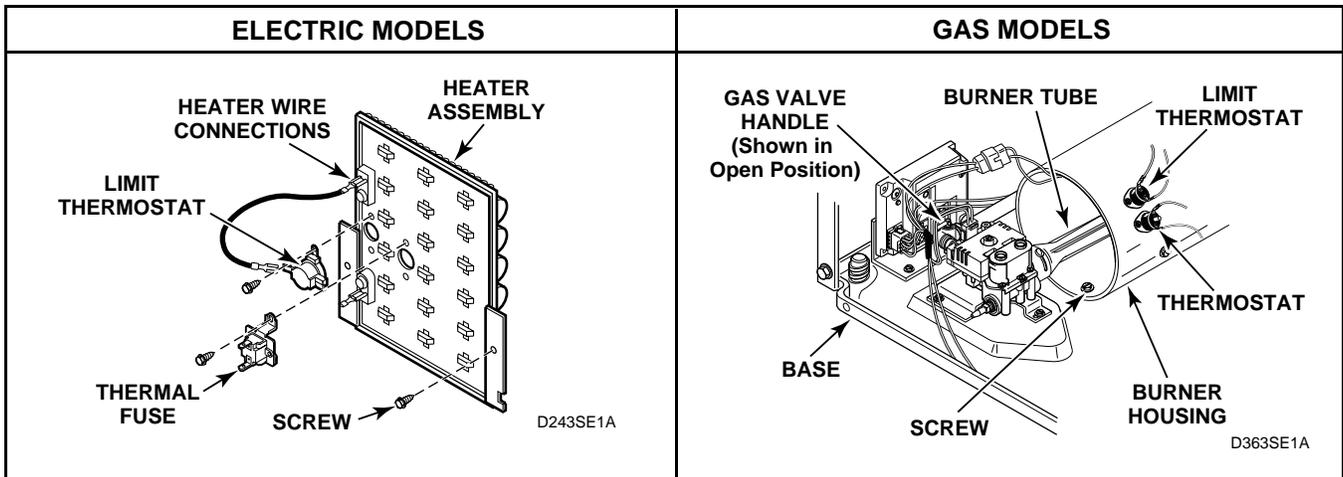

Figure 16
- d. Remove screw from right side of burner housing, while holding burner tube in place. See *Figure 16*.
- i. Remove screw holding front of burner housing to dryer base and remove housing out through front of dryer. See *Figure 16*.
- c. Disconnect wires and remove screws attaching limit thermostat to burner housing or element plate. See *Figure 16*.
- c. Disconnect wires from element and plate. See *Figure 16*.
- d. Remove two screws holding element and plate to heater box and remove element and plate out through front of dryer. See *Figure 16*.